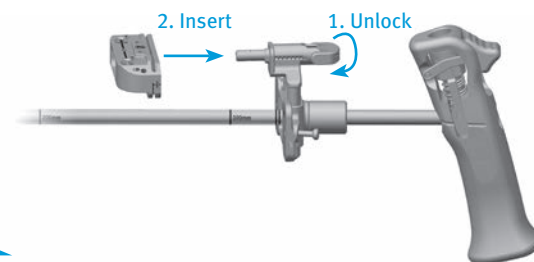

Fig. 109a
- Rotate the lock lever on the Fixed Resection Tower to the unlocked, or “in-line”, position and fully insert into the Cut Guide (**Fig. 109a**).